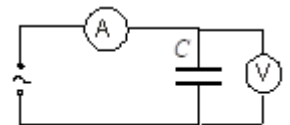

Fig.6
Connect the circuit as shown in Fig. 6. Determine the impedance of the circuit. Calculate the capacitance of a capacitor, substituting into equation (4) the value $R=0$ (connection resistances are small)